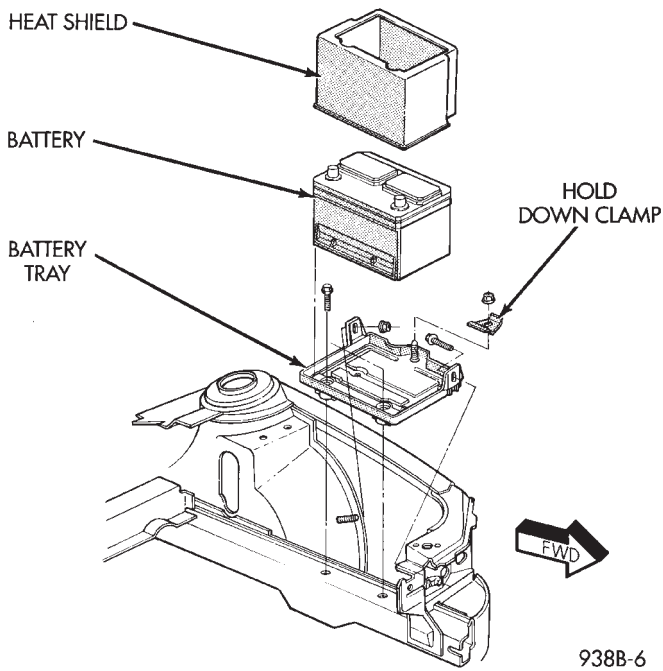
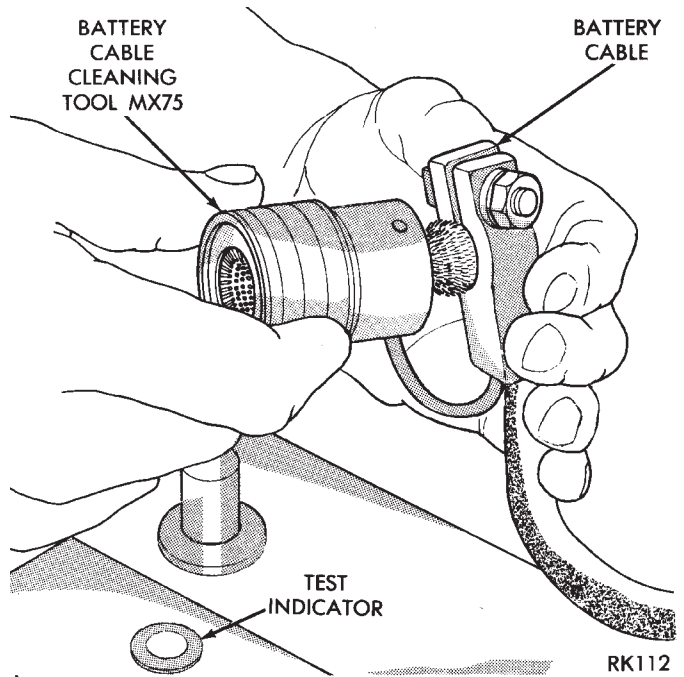

Fig. 3 Battery Heat Shield/Hold-Down/Tray
Fig. 6 Cleaning Battery Cable Terminal
(9) Clean inside surfaces of battery terminal clamps with a suitable battery terminal cleaning tool (Fig. 6). Replace damaged or frayed cables and broken terminal clamps.
(10) Inspect battery for proper or damaged hold down ledge.
(11) Install battery in vehicle making sure that battery is properly positioned on battery tray (Fig. 3).
(12) Install battery hold down clamp, making sure that it is properly positioned on battery.
(13) Place battery heat shield, over battery. The top inside surface of heat shield must be flush with top of battery.